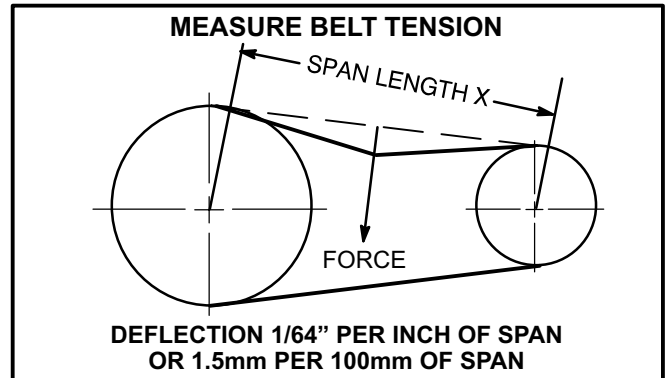

FIGURE 2
- 1- Measure span length X. See figure 2.
- 2- Apply perpendicular force to center of span (X) with enough pressure to deflect belt 1/64" for every inch of span length or 1.5mm per 100mm of span length.